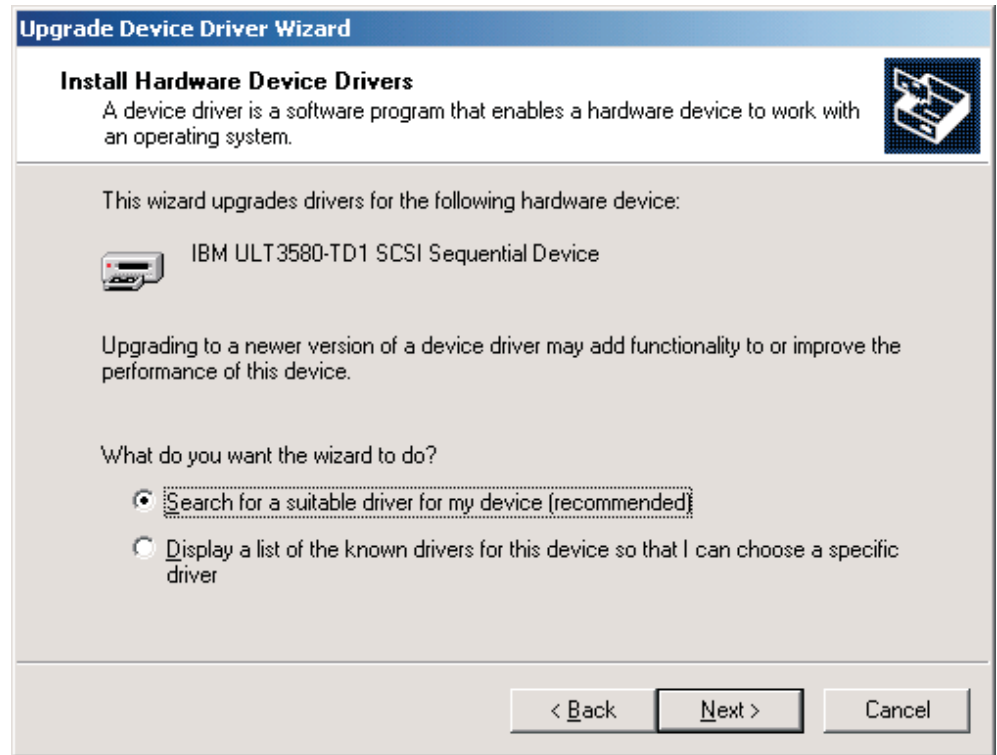

Figure 29. Install Hardware Device Drivers Dialog
12. An **Upgrade Device Driver Wizard** window opens. Click **N**ext > to open the window shown in Figure 29 on page 213. Click **S**earch for a suitable driver for my device (recommended), then click **N**ext >. A **Locate Driver Files** screen appears.